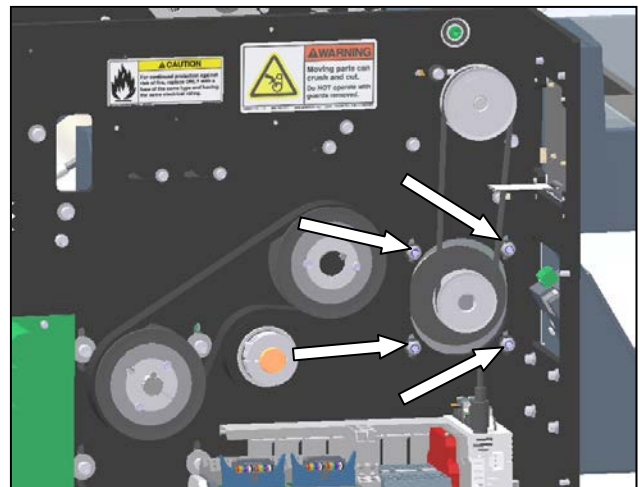

Figure 3-186. File Feed Drive Motor Mounting
2. Unplug the quick disconnect on the motor cable, and remove the four motor mounting screws. The head of the screws can be accessed through the opening exposed by removing the load plate (Figure 3-186).